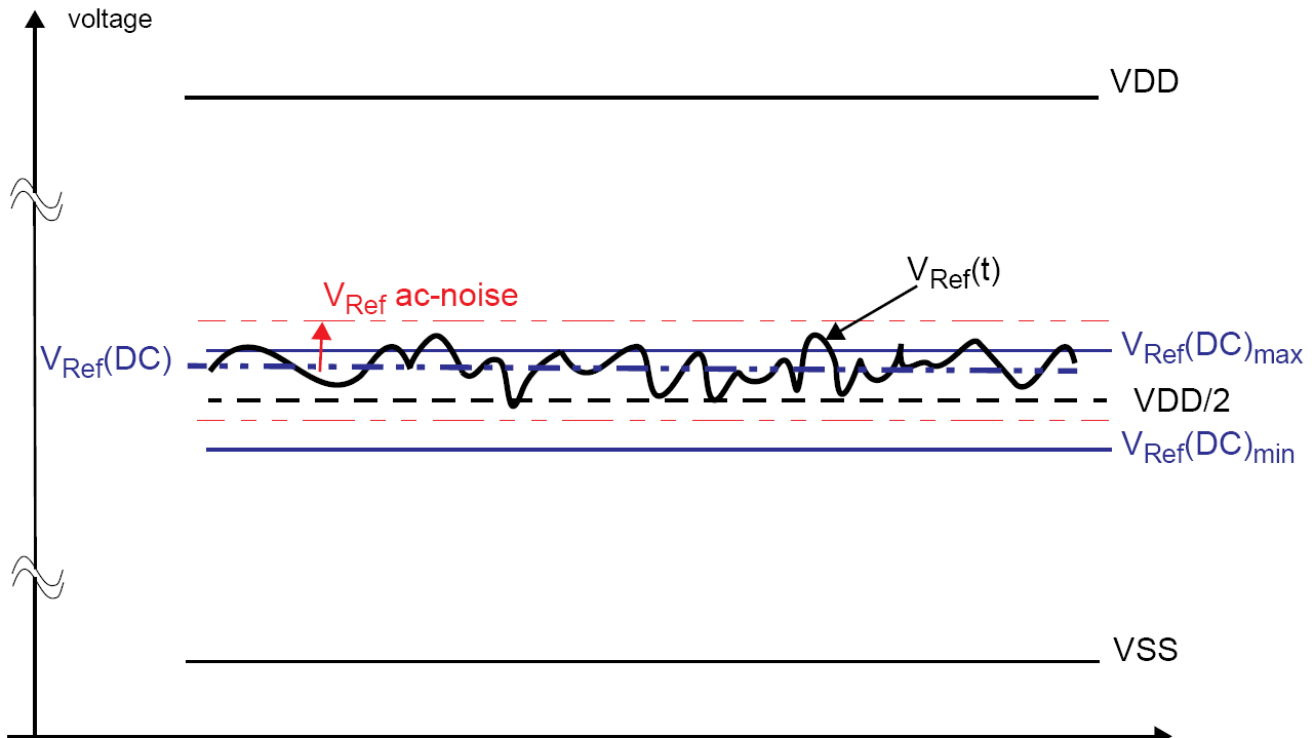

Figure 7.1 — Illustration of VRef(DC) tolerance and VRef ac-noise limits
The dc-tolerance limits and ac-noise limits for the reference voltages VRefCA and VRefDQ are illustrated in Figure 7.1. It shows a valid reference voltage VRef(t) as a function of time. (VRef stands for VRefCA and VRefDQ likewise). VDD stands for VDD2 for VRefCA and VDDQ for VRefDQ. VRef(DC) is the linear average of VRef(t) over a very long period of time (e.g. 1 sec) and is specified as a fraction of the linear average of VDDQ or VDD2 also over a very long period of time (e.g. 1 sec). This average has to meet the min/max requirements in Table 24. Furthermore VRef(t) may temporarily deviate from VRef(DC) by no more than $\pm 1\%$ VDD. Vref(t) cannot track noise on VDDQ or VDD2 if this would send Vref outside these specifications
The voltage levels for setup and hold time measurements VIH(AC), VIH(DC), VIL(AC) and VIL(DC) are dependent on VRef. “VRef” shall be understood as VRef(DC), as defined in Figure 7.1.